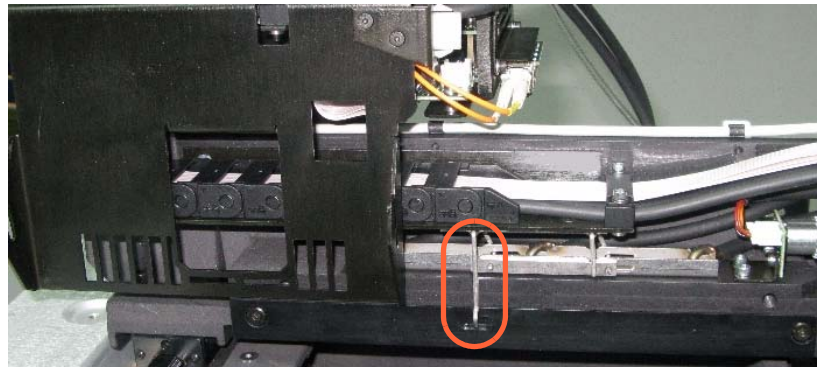

Figure 7-36: Roller-waste-collector locking pin
3. Turn the locking pin clockwise, to lower the drain-tube bracket onto the roller waste collector, and secure the pin in its socket (see figure 7-36 on page 26).